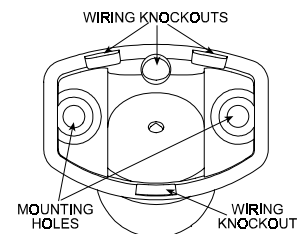

Figure 8. Bracket Base, Rear View
- F. Punch out the selected wiring knockouts in the bracket (see Figure 8).